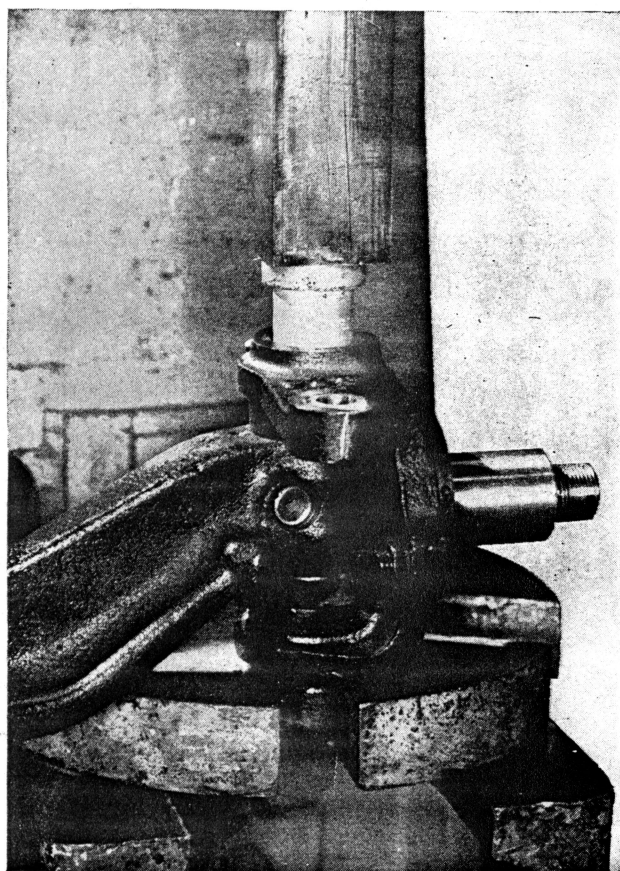

Fig. 35
H. Remove steering knuckle expansion plug from one end of knuckle, and press knuckle pin from assembly. (Refer to Fig. 35.) The expansion plug on opposite end of pin will be removed as pin is pressed through.